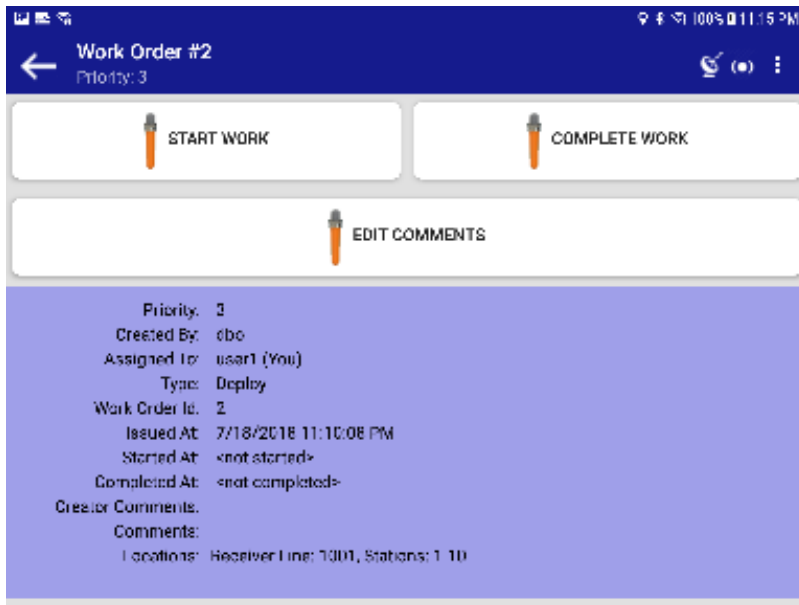

Figure 51
- In the example screenshot in Figure 51 above, there are 2 Work Orders listed that were synchronized to the device.